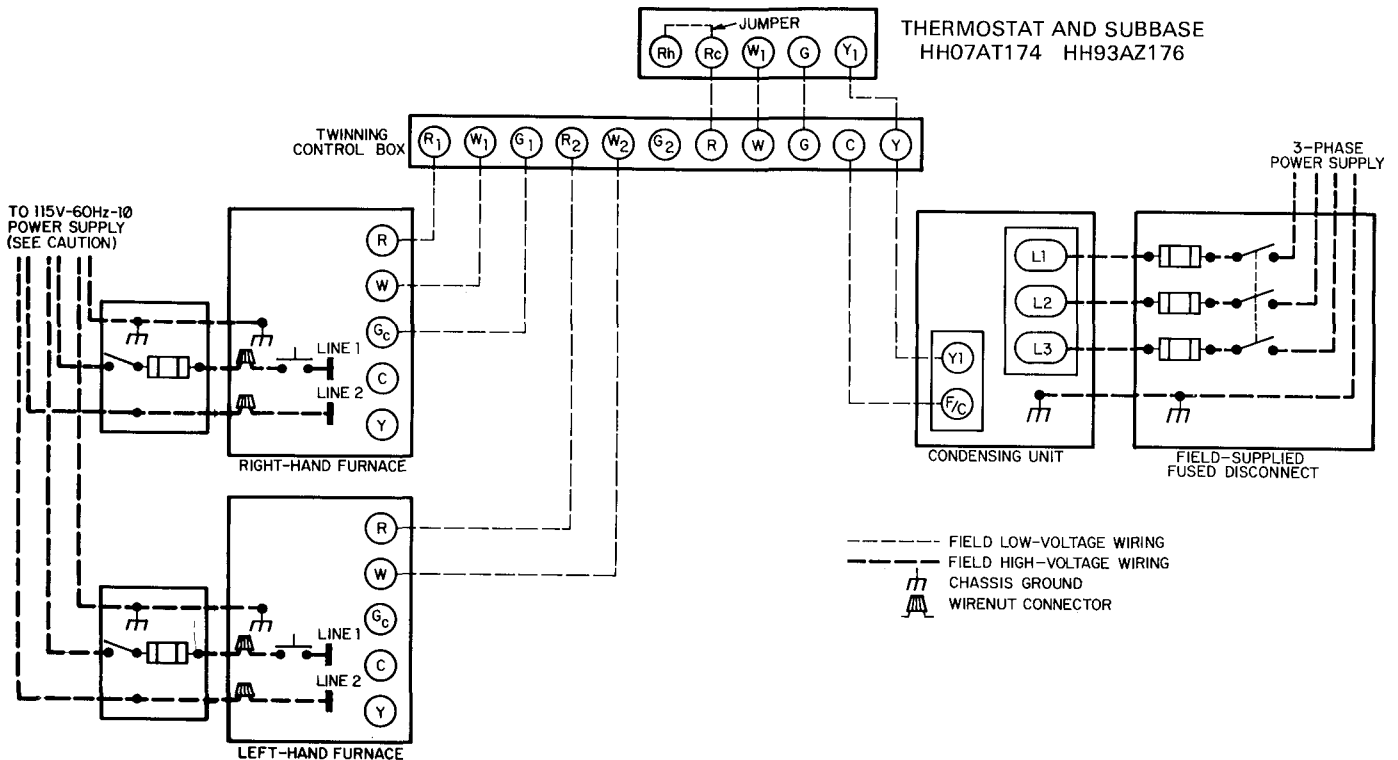

Fig. 6 — Field High- and Low-Voltage Wiring
1. Connect high-voltage power supply leads as shown in Fig. 6 and 7.
2. Connect high-voltage power supply leads as shown in Fig. 6 and 7.